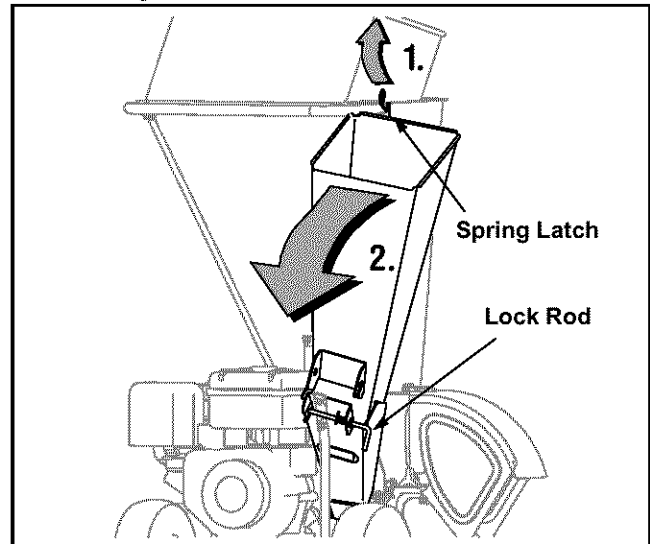

Figure 2
- Pull the spring latch upward and gently pivot the chipper chute down until it clicks into the lock rod. See Figure 2.